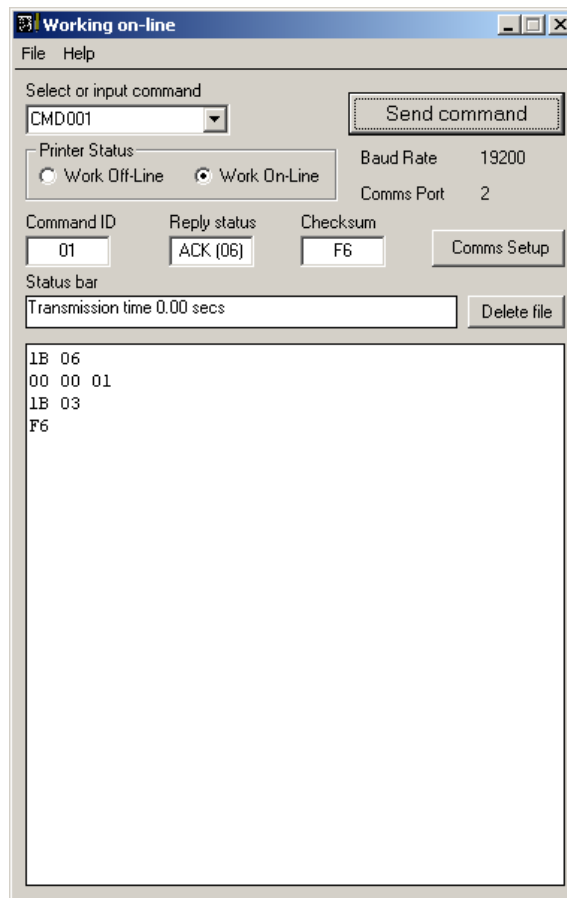

Figure 1.4 Positive
In Fig 1.4 CMD001 was sent and a positive reply was received, i.e. the command was accepted. In the reply the Command ID was 01_H, the Reply Status was ACK (06), the Checksum was F6 and the transmission time is shown as 0.00 seconds, which can be expected for a short command sent at 19200 Baud. The lower pane shows the formatted reply from the printer.